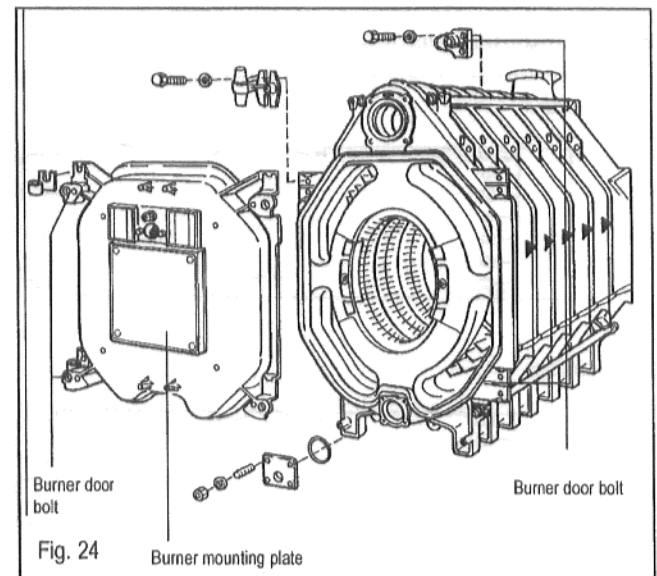

Fig. 24
- Hang and close burner door and **tighten evenly** with the (4) M16x140 burner door bolts (Fig. 24).